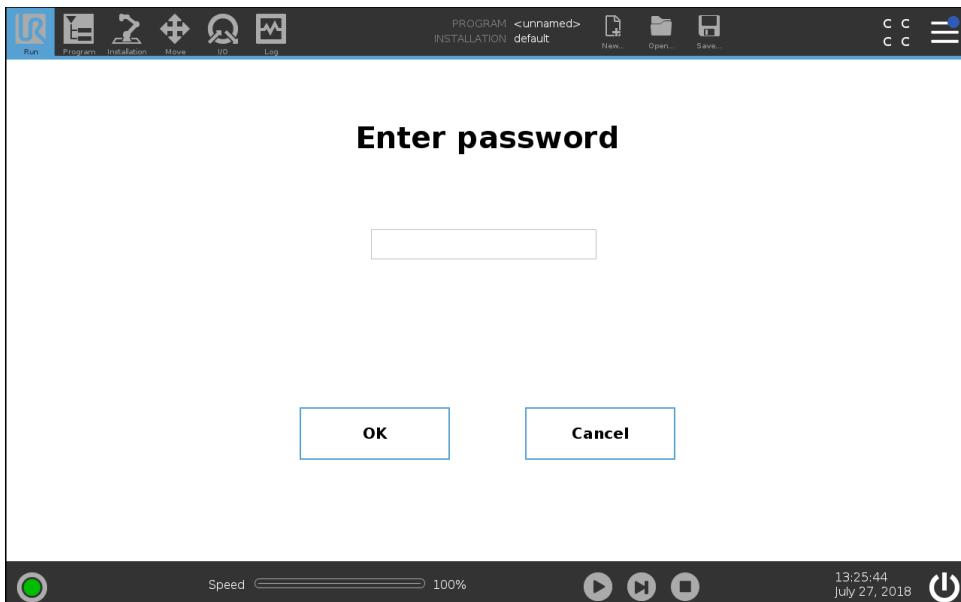

Figure 1.2: Expert Mode screen
- (1) In the Header, press and hold the Run Tab to access **Expert Mode**, (see Figure 1.2).
- (2) Enter the password and tap **OK**.